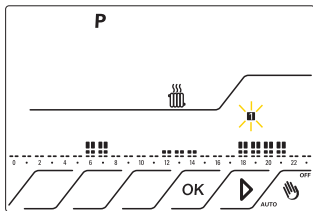

Fig.24
from 22.00 to 23.59: T1 Fig.24
6.4 Press OK to confirm. The day value  flashes as fig.24.